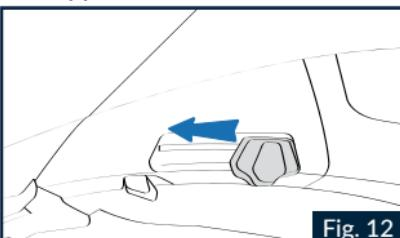

Fig. 12
1.1 To activate the VPS, move the slider as in Fig.12 until you hear a click that means that the VPS is in the desired position.
- 3.1 Open the helmet chin guard and lower the VPS completely (see instructions above) (Fig.12).
- 4.1 Open the helmet chin guard and move the side slider until it stops (see instructions above) (Fig.12).